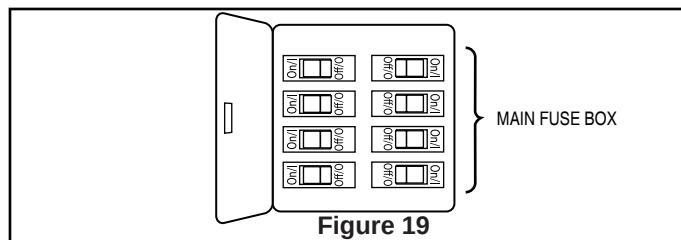

Figure 19
- ☐ 1. Restore electrical power to the outlet box by turning the electricity on at the main fuse box. (Figure 19)